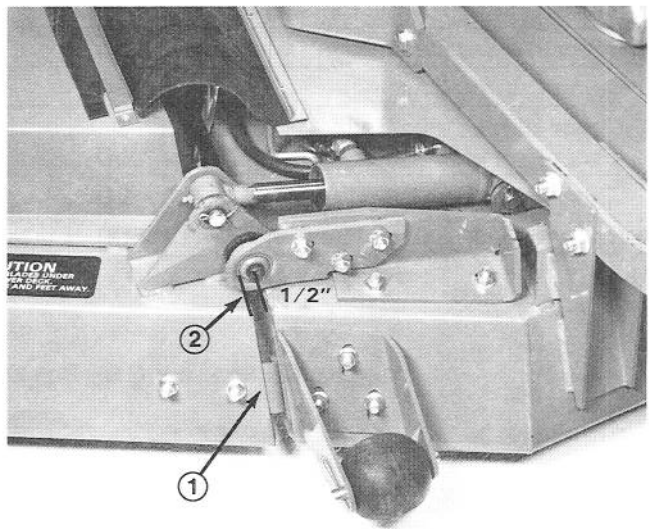

Figure 41
8. Raise or lower lower hinge bushing brackets and/or adjust front and rear stops to achieve proper blade match and height of cut. Each wing section should rest against the front and back stops (Fig. 41). A half inch (13 mm) gap between the wing section and the center section should be maintained (Fig. 41). Torque fasters to 65 ft. lbs. (90 N·m). Readjust wing lift cylinders and retention belts after making wing adjustments. Install covers on top of cutting unit.